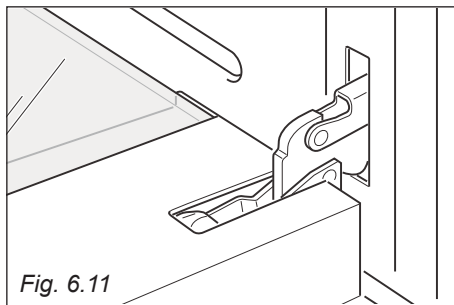

Fig. 6.11
- Open the door to the full extent (fig. 6.11).